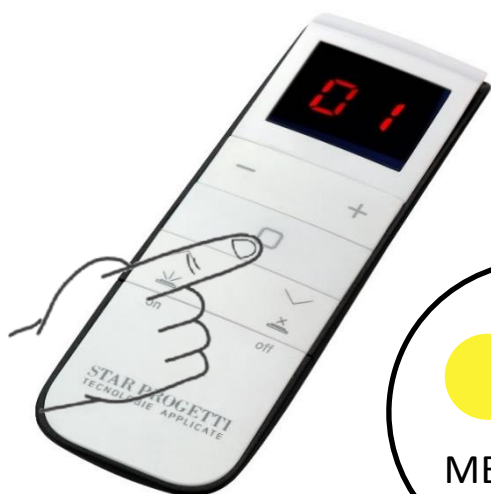

Fig.11
- On channel «1», press the button as shown in fig. 11